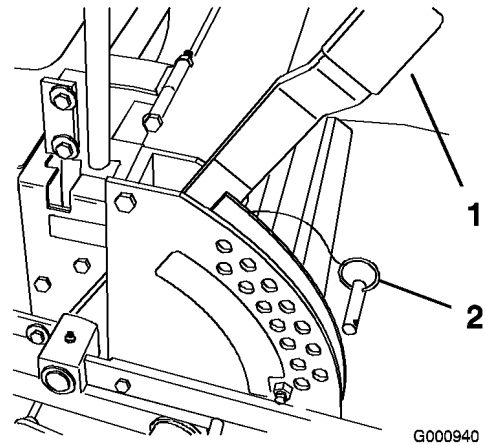

Figure 18
1. Raise the height-of-cut lever to the transport position (also the 5 inch (127 mm) cutting height position) (Figure 18).
2. To adjust, remove the clevis pin from the height-of-cut bracket (Figure 18).
3. Select a hole in the height-of-cut bracket corresponding to the height-of-cut desired and, insert the clevis pin (Figure 18).